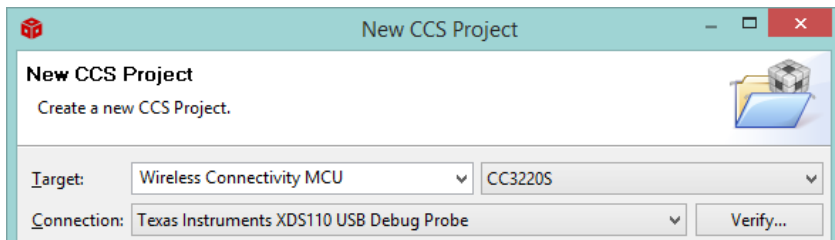

Figure 3: Settings for the new CCS project.
- choose `Project >> New CCS Projec...` in the menu and select the project settings as shown in Figure 3;